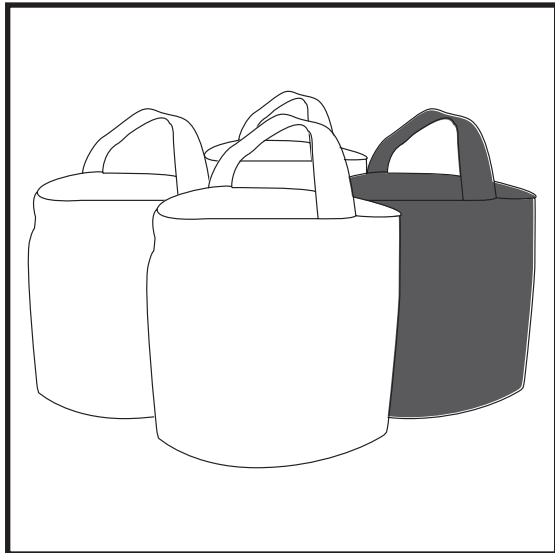

Fig. 21
3. If you want to pitch a tent on a hardened ground, such as pavement, asphalt or concrete, you will need to place 4 ballast bags (30 kg each) near each corner of the tent. (Fig. 21). Ballast bags are not part of the equipment and must be bought separately. Mind that attaching a tent to the ground with ballast bags is not as reliable as attaching it with anchors. This is why, for safety reasons, a tent ballasted with bags should be supervised all the time.